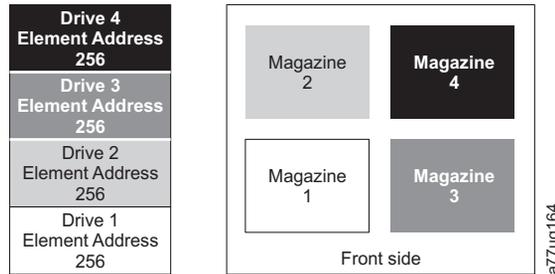

Figure 164. Configuration of a four - partition system
- Logical Library 1: Slot1 through 23 4096 (0x1000) through 4118 (0x1016) as shown in Figure 164 on page 224
When configured with four logical partitions, the Element Address assignments will be as follows: DTE assignments will be as shown in Figure 164 on page 224.